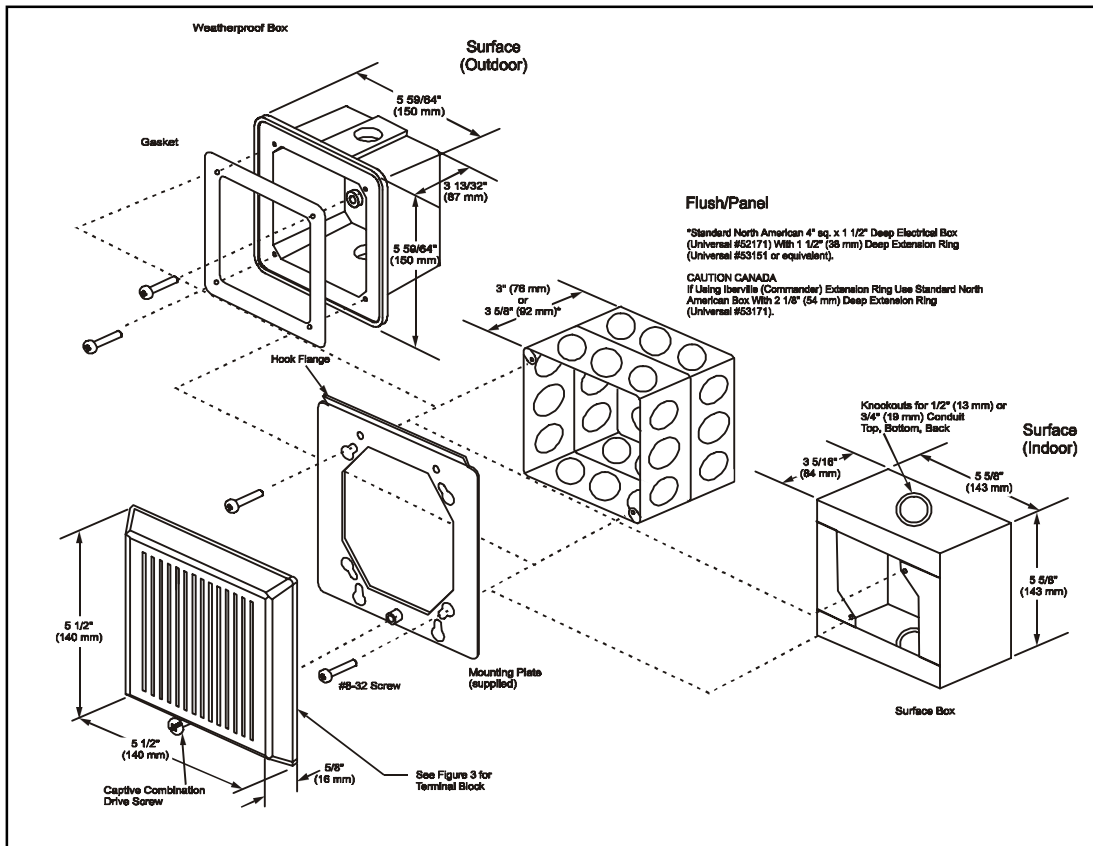

Figure 1. Mounting the Horn
See Table 2 and Figure 1 for specifications.
1. Select a mounting method as detailed in Figure 1 and install the electrical box using suitable hardware.
**NOTE:** Be sure hook flange is facing outward as shown in Figure 1.
5. Mount horn assembly on the mounting plate (Figure 1).